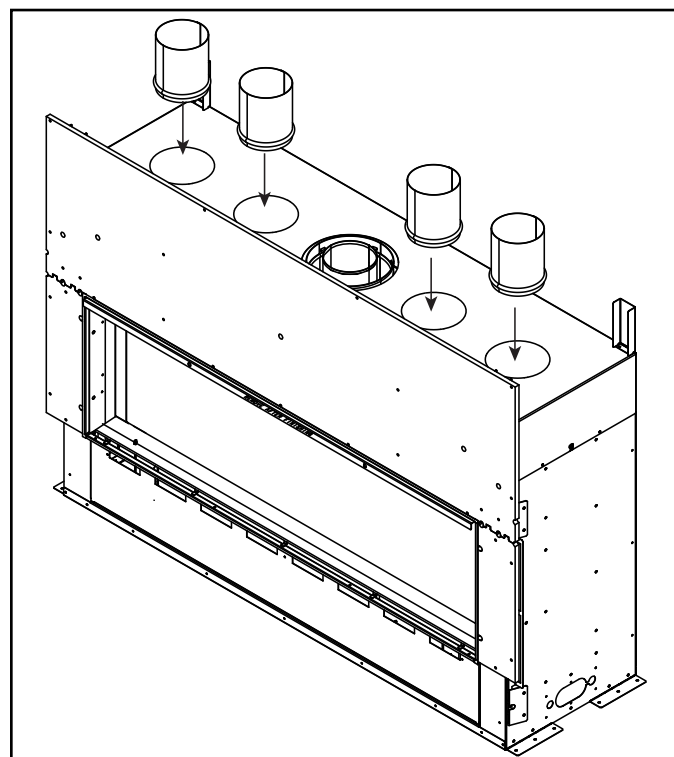

Figure 5.3 Install Inner Flues
3. Set an inner flue in each of the holes where the knockouts were removed. See Figure 5.3.